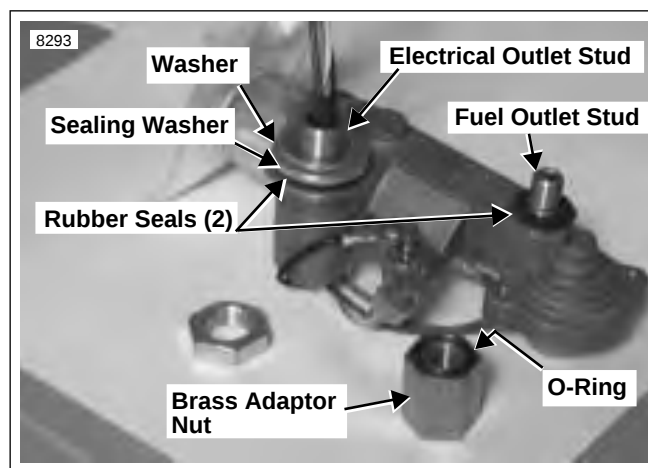

Figure 4-93. Rubber Seals and Washers
1. See Figure 4-93. Check rubber seals on electrical and fuel outlet studs that go through tank.